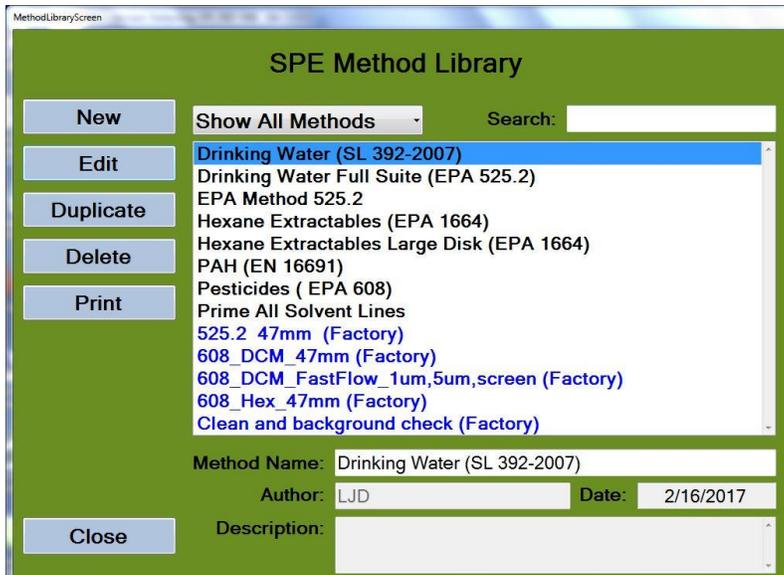

Figure 6-31. SPE Method Library Screen
Step 2: Click the *Method Library* button. The screen in Figure 6-31 will appear (methods listed may be different).